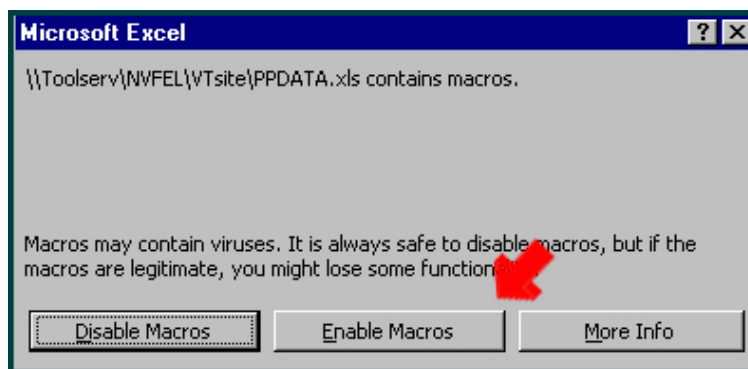

Figure 38
- 607 In the "Microsoft Excel" dialog box which appears, click on the "Enable Macros" button. See the arrow in Figure 38.